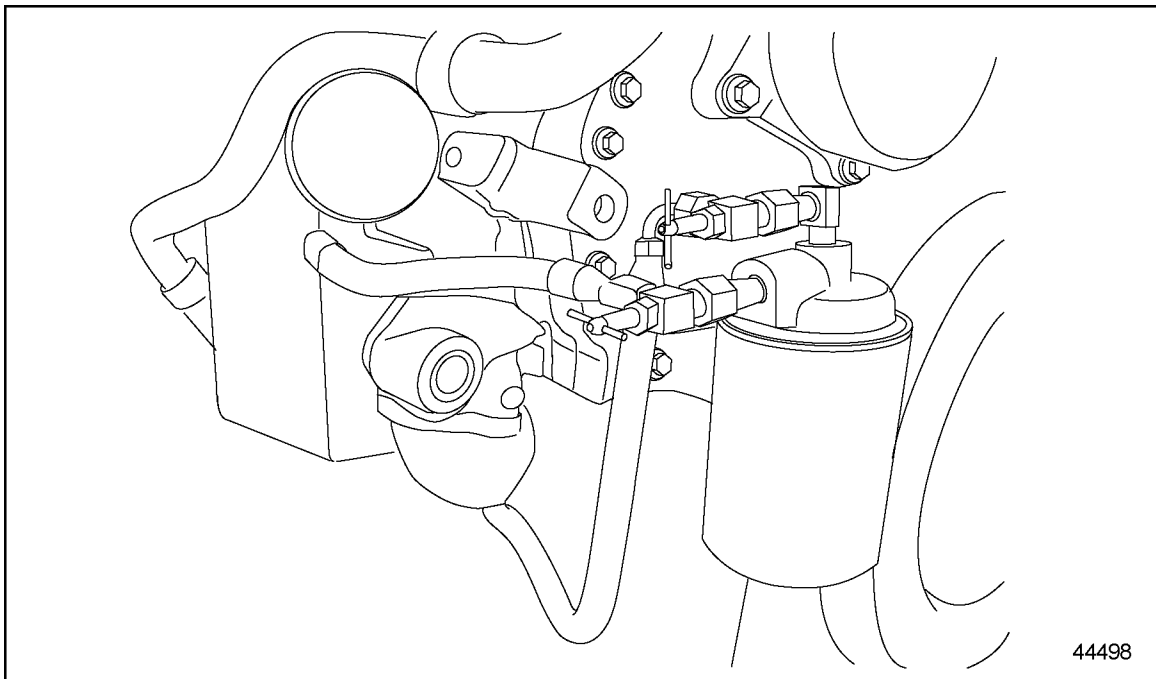

Figure 1 Former P/N: 23529234 Coolant Filter Adaptor Assembly
3. Disconnect the hose assemblies where they attach to the former P/N: 23529234 coolant filter adaptor, shown in Figure 1.